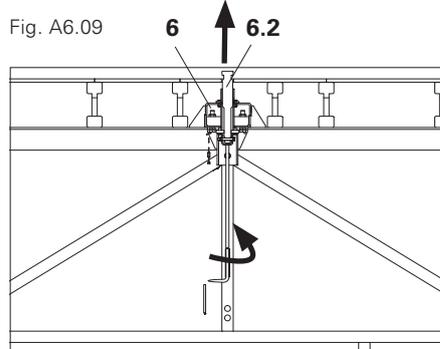

Fig. A6.11
3. Pull Lifting Head with the rope and suspend it on the moving pin (6.2). (Fig. A6.11)